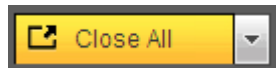

Figure 5-4
- Section 2: There are channel number and one button: Start all. Start all button is to enable/disable all-channel real-time monitor. Click it the button becomes yellow. See Figure 5-4.